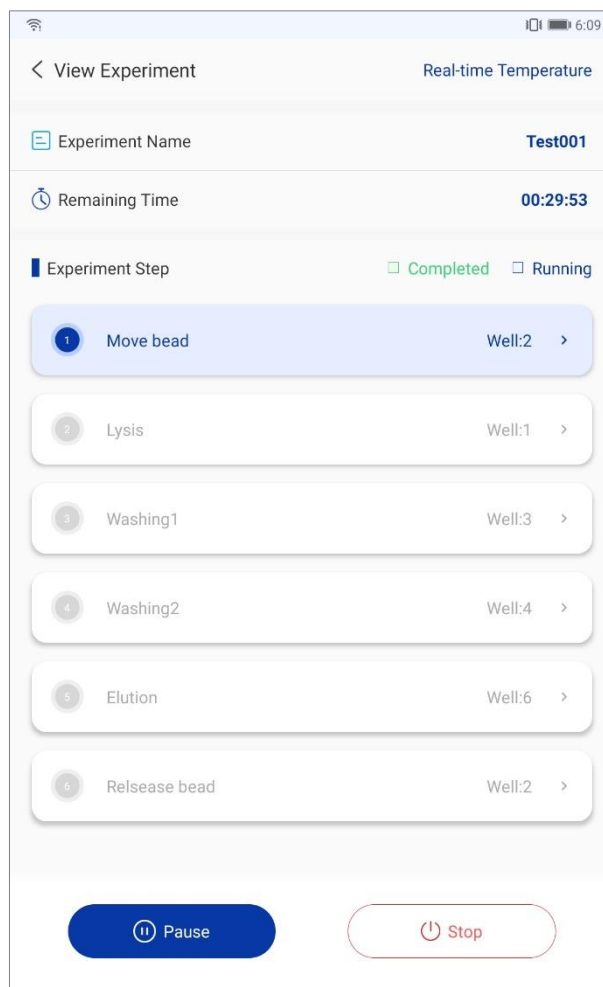

Figure 5-5. Experiment Interface - Run Experiment
4. **Run Test:** select any experiment on the experiment interface and click < **Run** > to enter the Experiment running interface, as shown in figure 5-5.
- 4) After placing the consumables, user can select the experiment on the Experiment interface and click < **Run** >, as shown in Figure 5-5. For detail operation instructions, please refer to 5.2.1 Experiment Interface – Run Experiment.